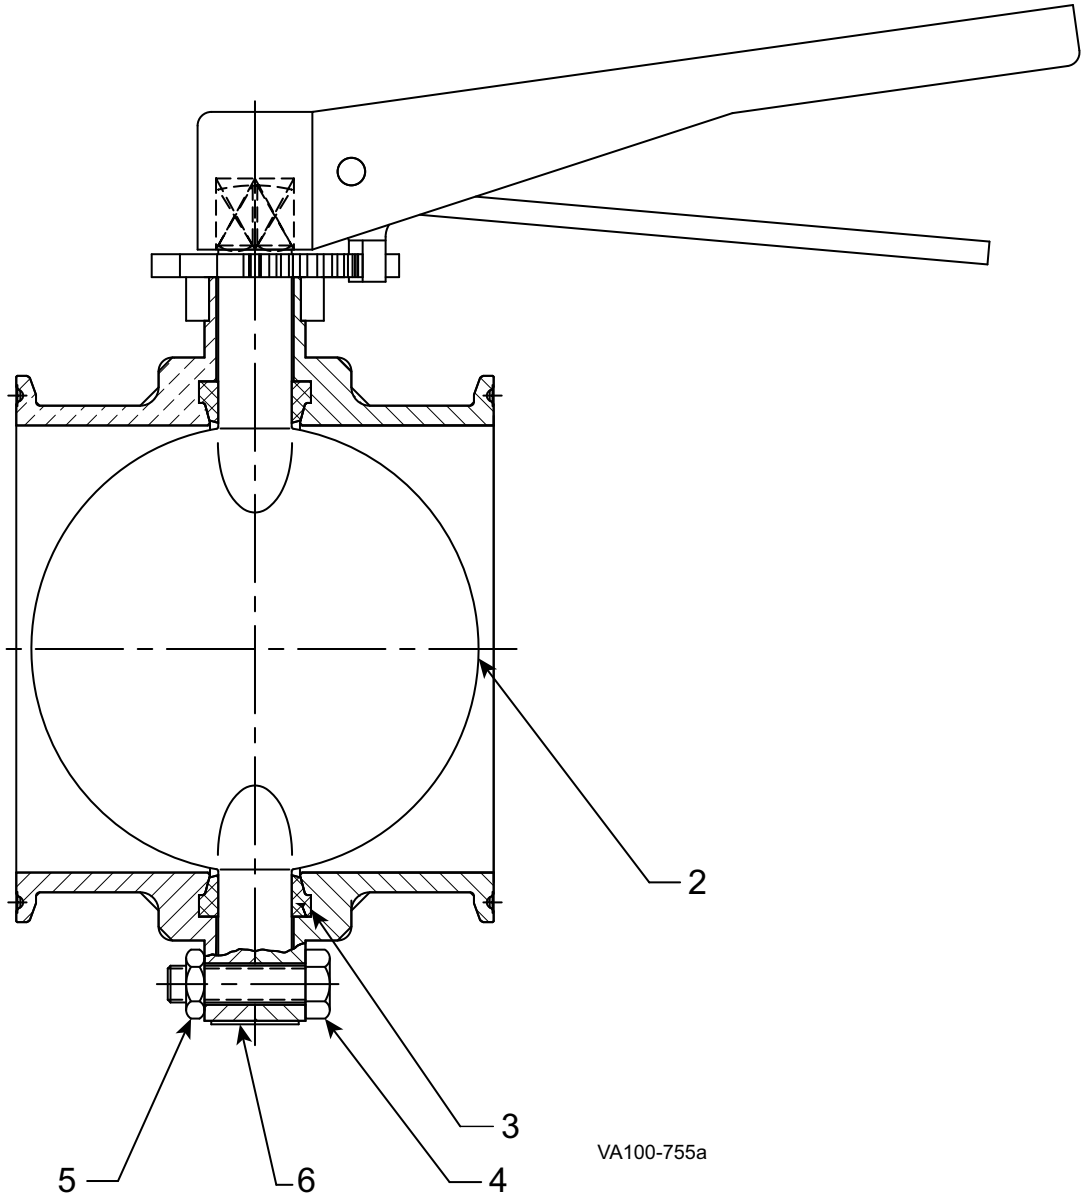

**Figure 5 - Assembled valve with proximity sensor**
3. Place the adapter/coupling (item 2) and feedback cam (item 8) onto the valve shaft (item 13) to align with the position indicator (item 3). Ensure that the metal pins (item 8a) of the feedback cam (item 8) are oriented correctly for valves with yoke prox. sensors. (See Figure 5 for assembled valve with proximity switch (item 12).)
4. Slide the top of the yoke/bracket (item 1) over the actuator shaft (item 14) and attach it to the actuator (item 11) with actuator bolts (item 10).
5. Place the actuator with the yoke/bracket over the assembly created in step 3, align the actuator shaft (item 14) with the adapter/coupling (item 2), and fasten the bottom of the yoke/bracket to the valve (item 7) using the valve bolts (item 6) and valve nuts (item 5).
**NOTE:** The valve nuts (item 5) and bottom two valve bolts (item 4) are re-used from the manual valve (item 7); it is only the two top valve bolts (item 6) that replace the existing top two bolts on the manual valve.
**NOTE:** Two proximity switches can be used; only one is shown in Figure 5.